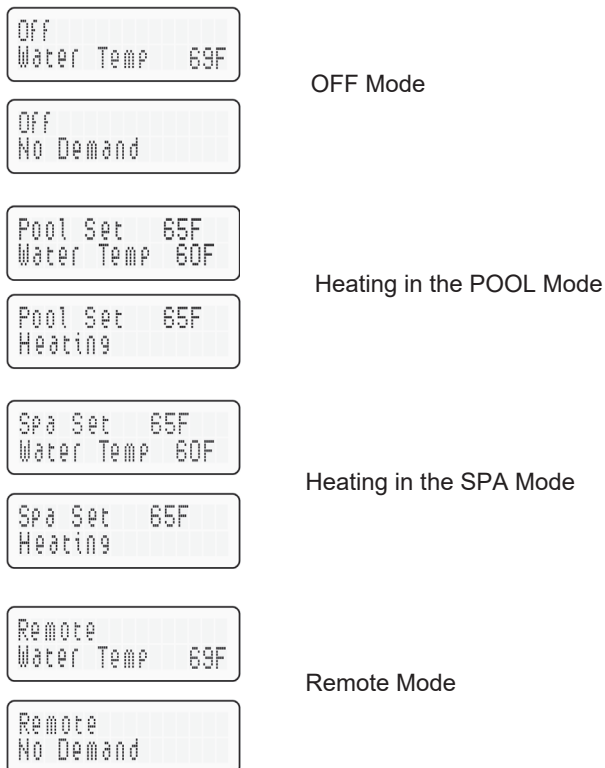

Figure 51. Remote Control Menu - Remote Operation
**⚠ CAUTION: Before installing remote controls to the digital heaters, read the following:** The digital thermostat model is remote-ready in most cases. The digital liquid crystal display (LCD) shows the actual pool temperature, operating status, and service codes. See Figure 51. The touch pad on the control panel allows you to select the desired pool or spa temperature. It also indicates when a remote system is controlling the heater by displaying **Remote** in the display. When connecting the heater to a remote system, identify whether it is a two- or three-wire remote system. Select the appropriate instruction listed below to properly install the remote to the heater.